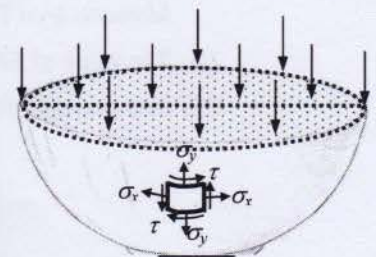

Fig. 1(c)
- (i) Draw the Mohr's Circle of stresses for the element shown in Fig. 1(c), specifying the Principal Stresses and Principal Planes